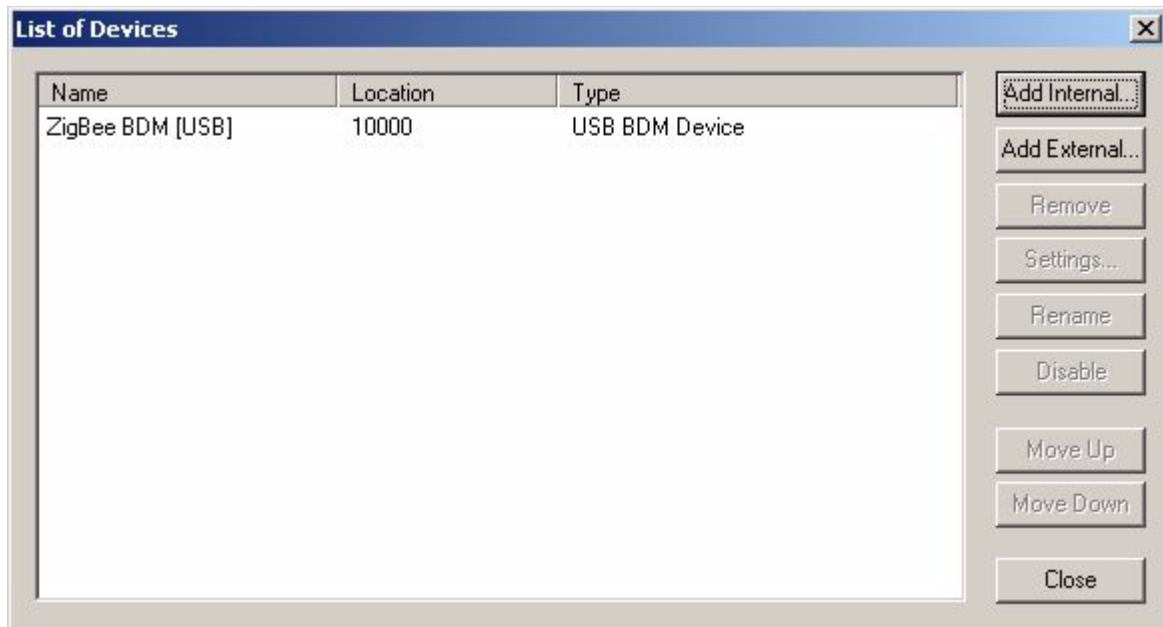
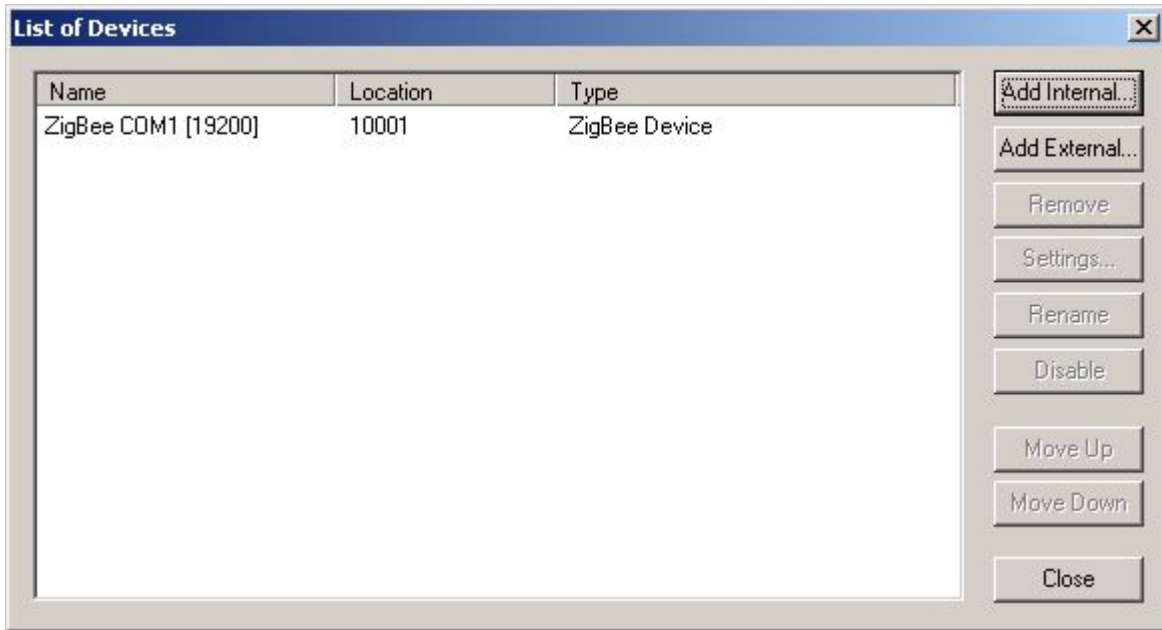

Figure 6. List of Devices Window (BDM)
Figure 7. List of Devices Window (USB or UART)
5. If using the BDM, select the USB-BDM option. If using the USB or UART connection, select the correct Comport and Baud Rate (default is 19,200). Then click the OK button. If using the BDM, the List of Devices window appears as shown in Figure 6. If using the USB or UART, the List of Devices window appears as shown in Figure 7.